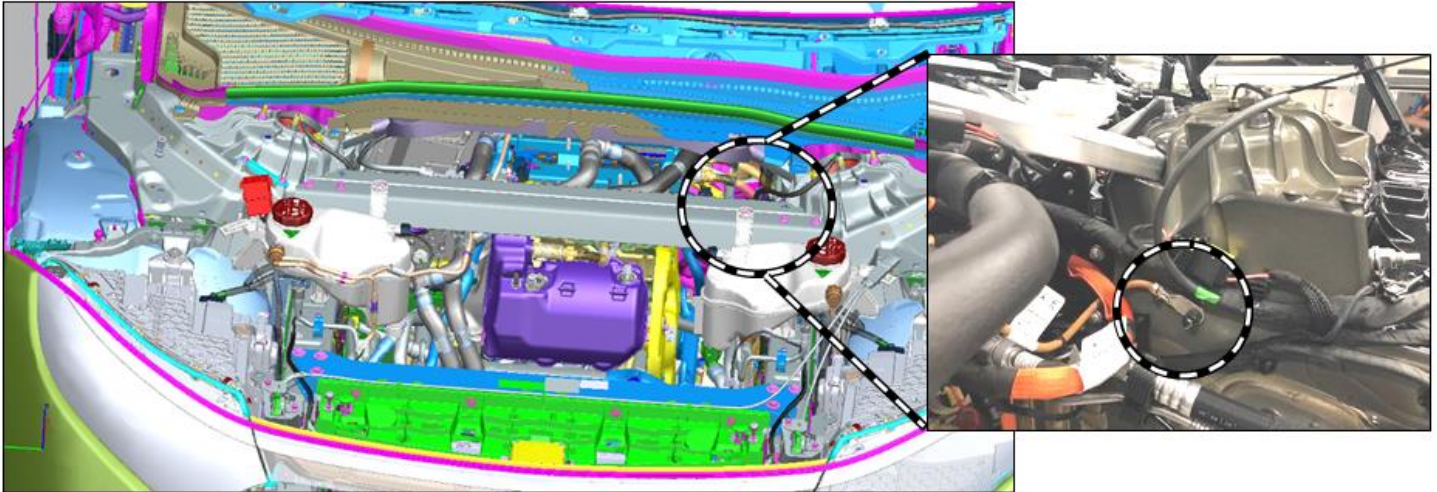

Figure 1
3. Loosen the threaded connection of ground point "W92w2" of equipotential bonding line of high-voltage PTC heater (N33/14) for vehicle interior in area of inner front left longitudinal member and left spring dome and screw on correctly (**figure 1**).